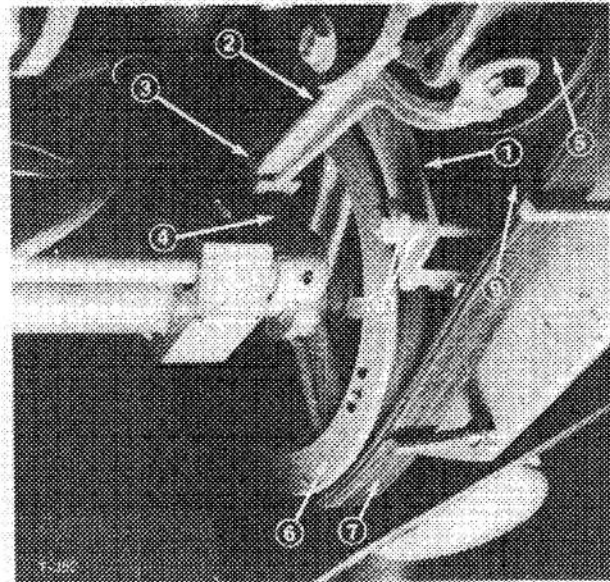

Figure 64
3. Move PTO lever to the ON position and remove PTO brake (Fig. 64).
4. Move PTO lever to the OFF position to release tension on the belt. Remove cotter pin and clevis pin from PTO fork and remove fork from PTO arm (Fig. 64). Roll old belt off engine pulley and PTO pulley (Fig. 64).
and engine pulley, making sure belt is to the inside of the three belt guides. Install PTO fork onto PTO and secure with clevis pin and cotter pin (Fig. 64).
2. Move PTO lever to ON position. Loosen adjusting locknut (Fig. 64) so brake is free to move. Move PTO lever to OFF and position the brake in grooves of pulley.
3. Tighten locknut to hold brake in position (Fig. 64).
pin, and slide spacer, brake and spring off the pins (Fig. 64).
2. Move PTO lever to the ON position to move pulley away from brake. Remove locknut holding brake on mounting pin, and slide spacer, brake and spring off the pins (Fig. 64).